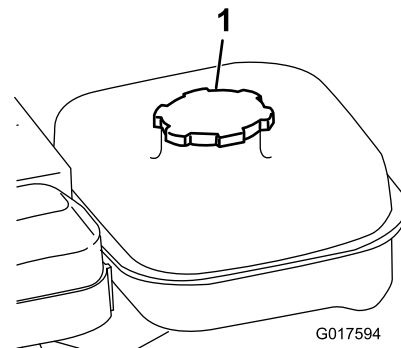

Figure 16
1. Clean around the fuel tank cap and remove the cap from the tank (Figure 16).